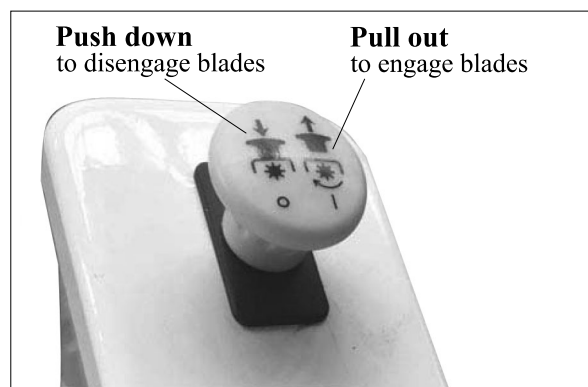

Fig 4.2
9. To start the blades, pull out the blade control button to engage blades. (**Fig 4.2**).
NOTE: make sure the Drive-mode switch is set on FORWARD position before engaging blades. To properly disengage the blades, push down the blade control button. (**Fig 4.2**).
The blade control button is push down.(**Fig 4.2**).